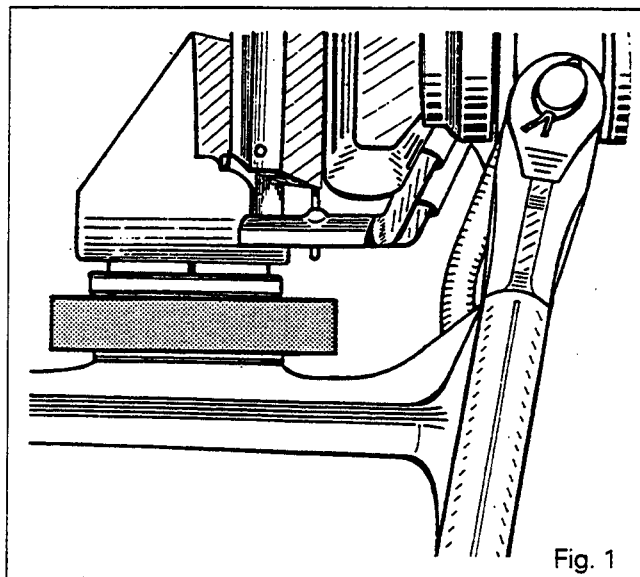

Fig. 1
- Note: Place a block between the cab and the trumpets (Fig. 1).**